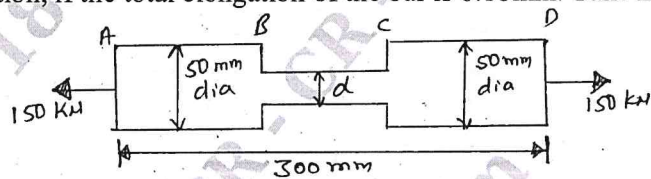

Fig.Q1(c)
c. A steel bar is subjected to tensile load of 150 kN as shown in Fig.Q1(c). Find the diameter of the middle portion if the stress in that portion is limited to 140 N/mm^2 . Find also the length of the middle portion, if the total elongation of the bar is 0.16 mm . Take $E = 2 \times 10^5 \text{ N/mm}^2$.